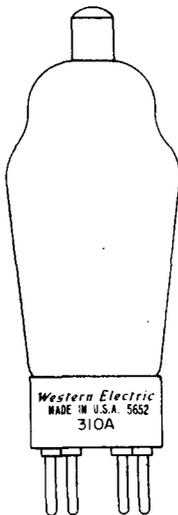

Fig. 1
2.05 Some of the electron tubes such as the 310A, 101F, 373A, etc., are marked on the base of the tube as indicated in Fig. 1.